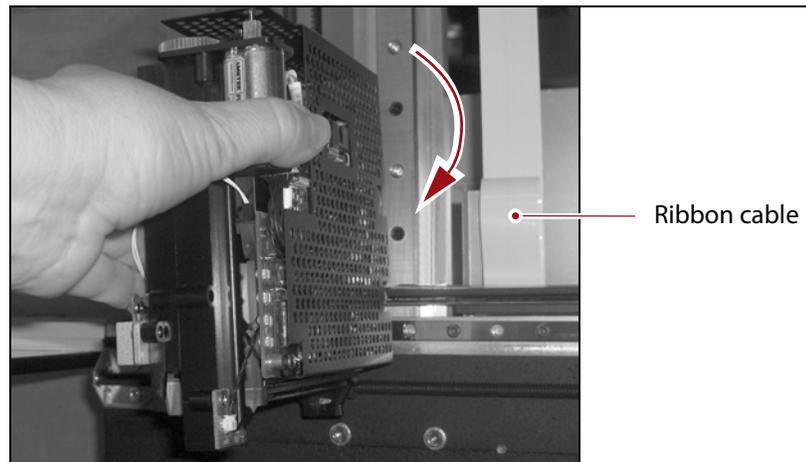

Figure 19 Rotate the cartridge picking mechanism to vertical.
3. Locate the ribbon cable connected to the printed circuit board mounted on the back of the transporter (see Figure 19).
3. (Optional) Gently rotate the cartridge picking mechanism clockwise 90° so that it is in a vertical position, providing easier access to the ribbon cable edge connector on the back of the transporter (see Figure 19 on page 20).